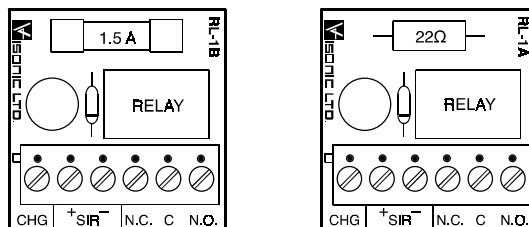

Figure 3. Relay module types
- 11-13 **AL-1** (alarm from zones 1- 4). Connect the relay coil across these terminals. Relay modules RL-1A and RL-1B may also be connected here (Fig. 3 - 7).
- 12-13 **AL-2** (alarm from zone 5). Connect the relay coil across these terminals. Relay modules RL-1A and RL-1B may also be connected here (Fig. 3- 7).